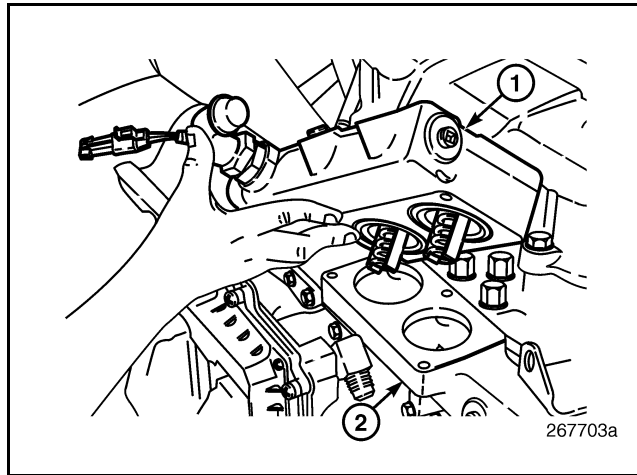

Figure 143 — Thermostat Housing
4. Remove the thermostat housing assembly (Figure 143).